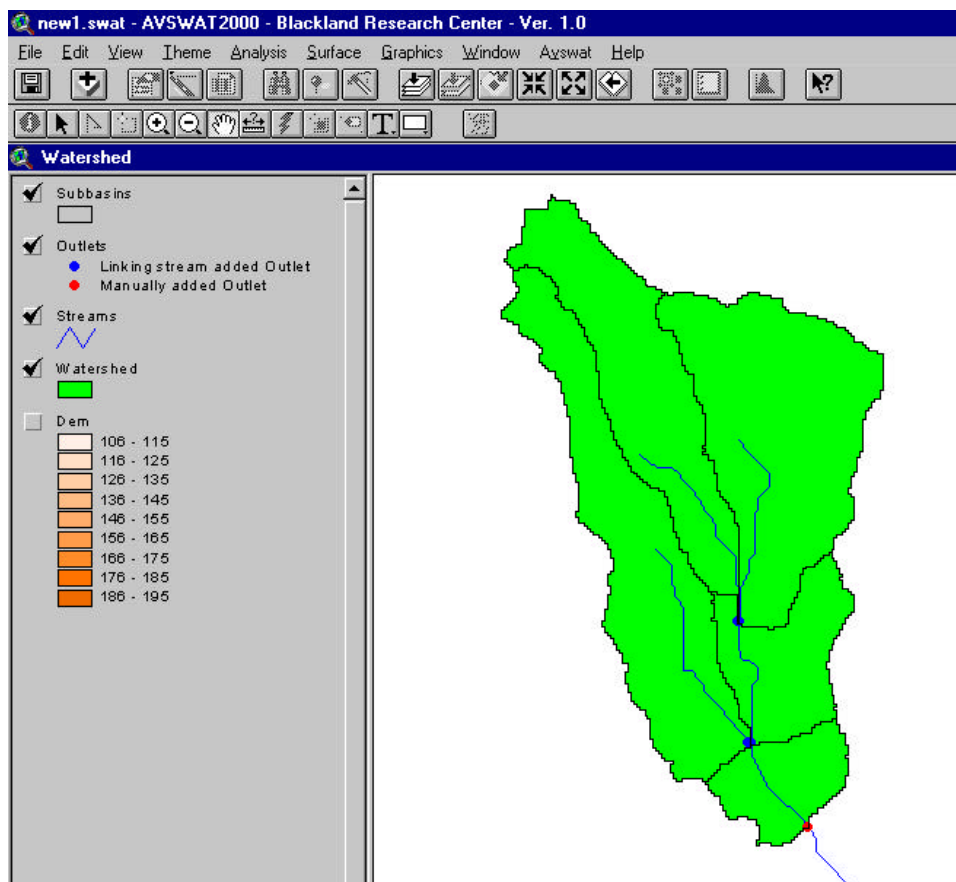

Figure 5.48
7. A map of the watershed (*Watershed* theme), sub-watersheds (*Subbasins* theme), and stream network restricted to the watershed (*Streams* theme) will appear on the screen when the interface has completed the watershed delineation (Figure 5.48).